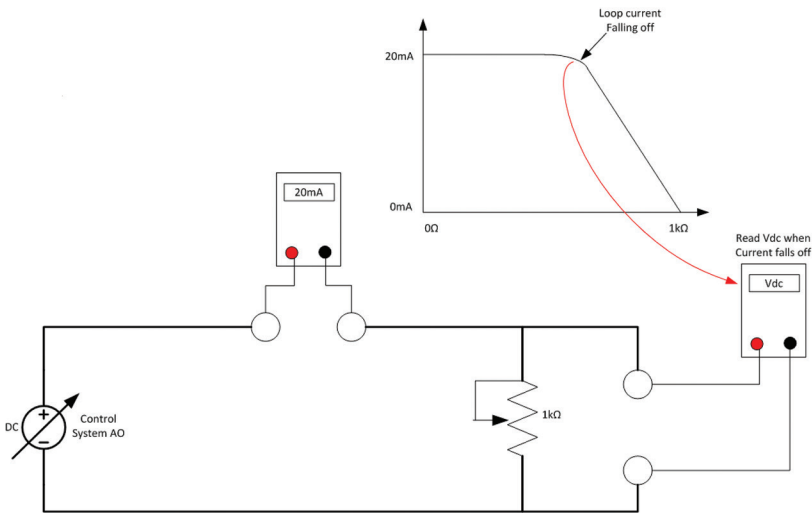

Figure 27 - Compliance Voltage Test Set-Up
1. Configure a test setup as in Figure 27.